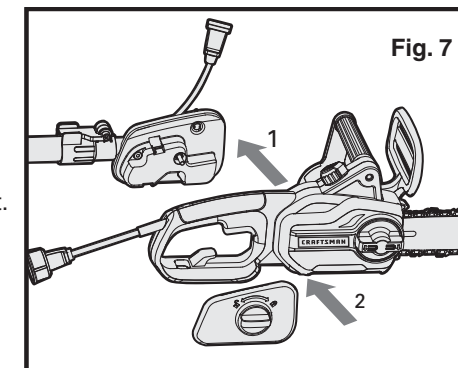

Fig. 7
1. Insert the pole bracket into the saw. (See Fig. 7)